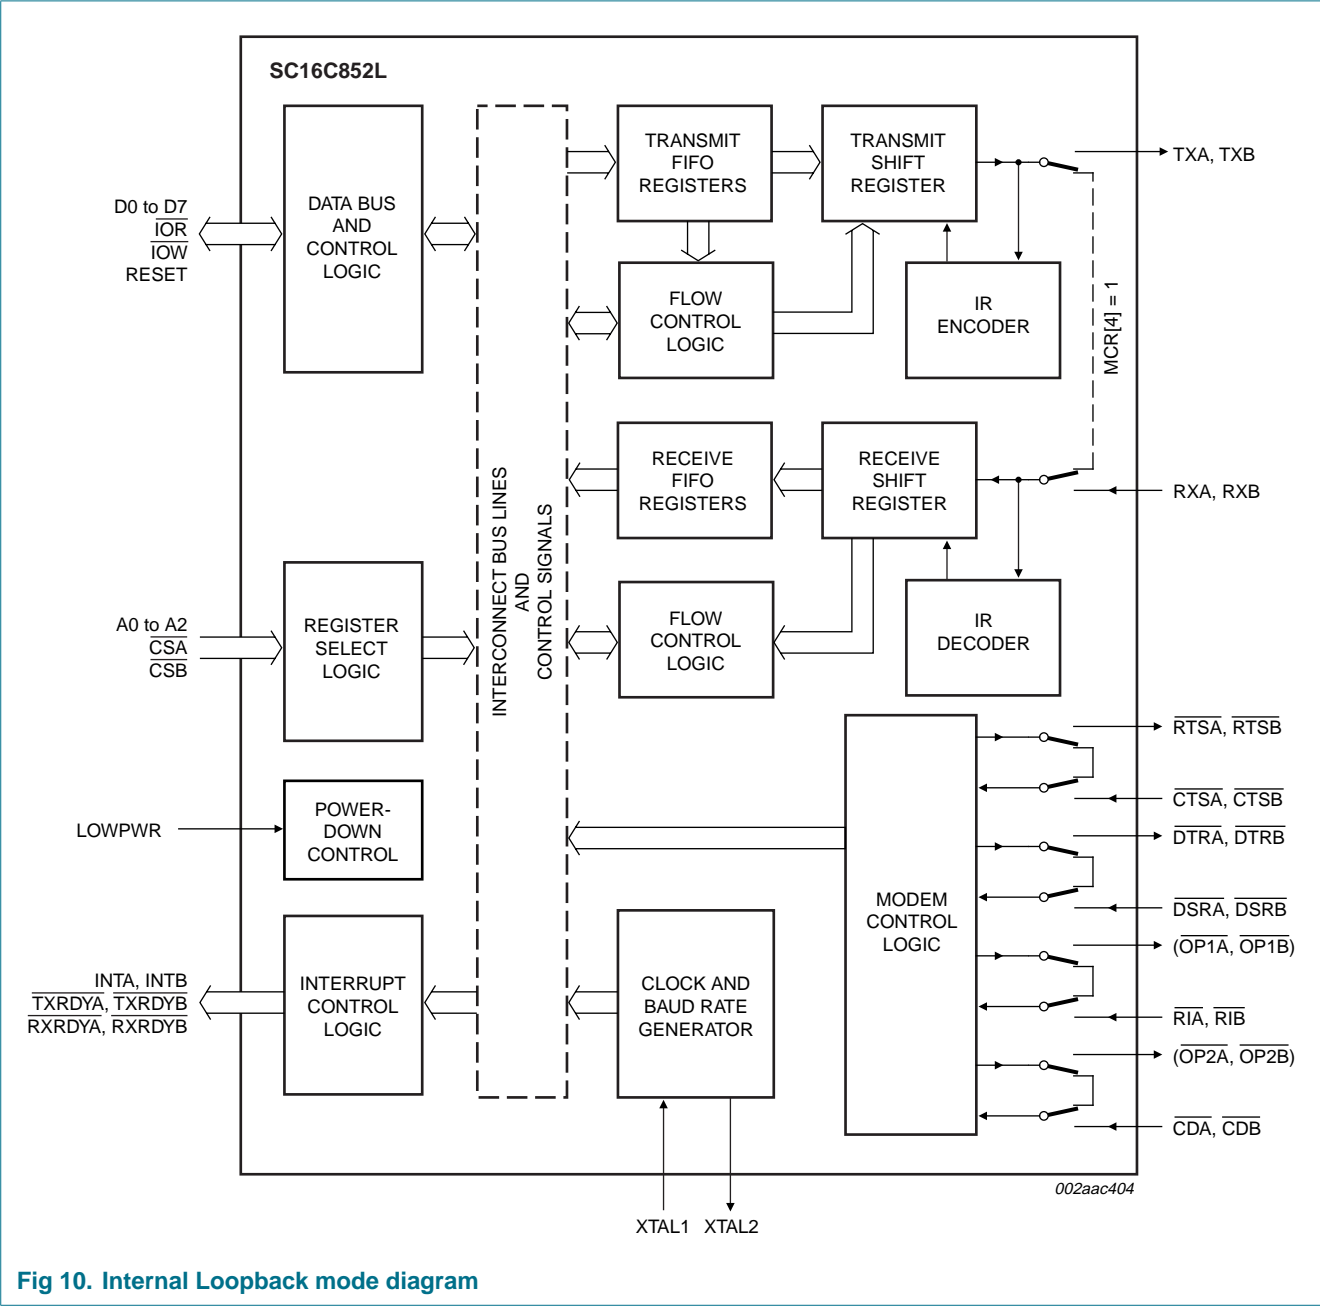

Fig 10. Internal Loopback mode diagram
The internal loopback capability allows on-board diagnostics. In the Loopback mode, the normal modem interface pins are disconnected and reconfigured for loopback internally (see Figure 10). MCR[3:0] register bits are used for controlling loopback diagnostic testing. In the Loopback mode, the transmitter output (TX) and the receiver input (RX) are disconnected from their associated interface pins, and instead are connected together internally. The $\overline{\text{CTS}}$, $\overline{\text{DSR}}$, $\overline{\text{CD}}$, and $\overline{\text{RI}}$ are disconnected from their normal modem control input pins, and instead are connected internally to $\overline{\text{RTS}}$, $\overline{\text{DTR}}$, MCR[3] ($\overline{\text{OP2A/OP2B}}$) and MCR[2] ($\overline{\text{OP1A/OP1B}}$). Loopback test data is entered into the transmit holding register via the user data bus interface, D[7:0]. The transmit UART serializes the data and passes the serial data to the receive UART via the internal loopback connection. The receive UART converts the serial data back into parallel data that is then made available at the user data interface D[7:0]. The user optionally compares the received data to the initial transmitted data for verifying error-free operation of the UART TX/RX circuits.